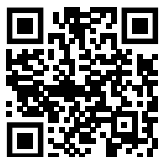

Fig. 151
- Avaa Liebherr SmartMonitoring Dashboard. (katso Fig. 151)